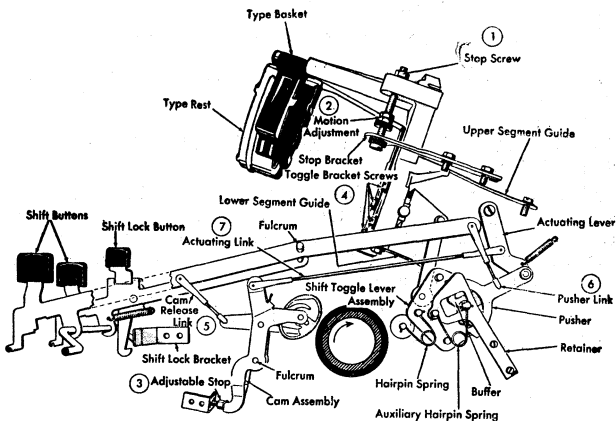

Figure 21. Shift Mechanism.
1. **SHIFT STOP SCREWS** should be adjusted so the lower case characters appear even on top and bottom (Figure 21).